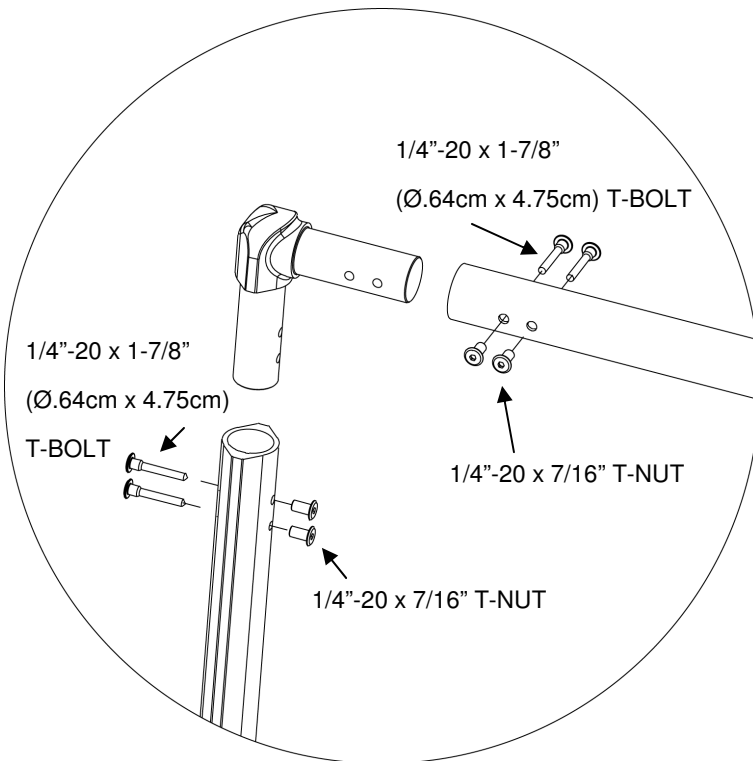

FIGURE 7B
- Drill two 3/8" (Ø1cm) holes completely through the extruded arms and upper bent tubes where they overlap (4 holes total 2 on each arm) (see figure 7B).
- Drill two 3/8" (Ø1cm) hole completely through the rear cross bar and upper bent tubes where they overlap (4 holes total 2 on each end of rear cross bar) (see figure 7B).